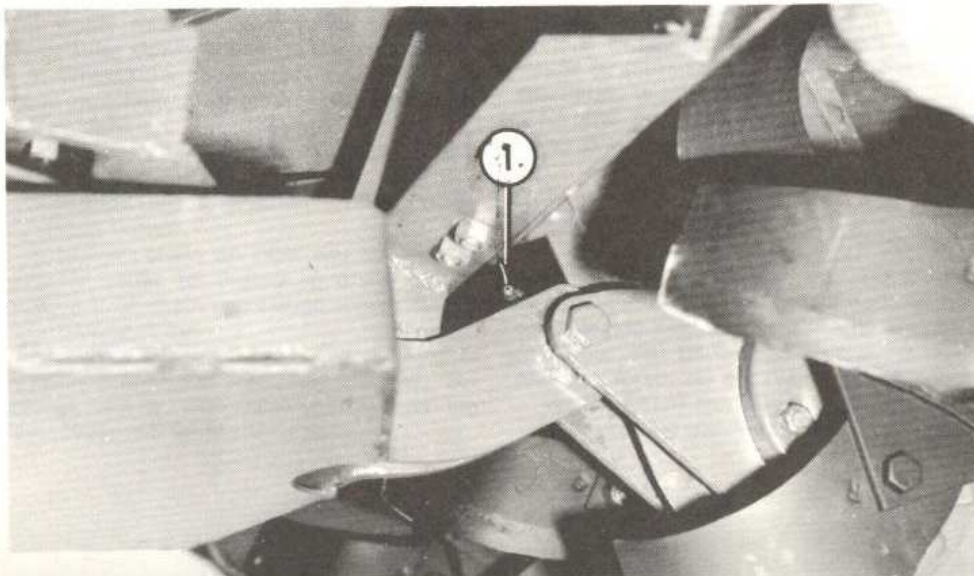

FIG. 31
4. Lubricate lower link pivot (1) with grease gun, Fig. 31.